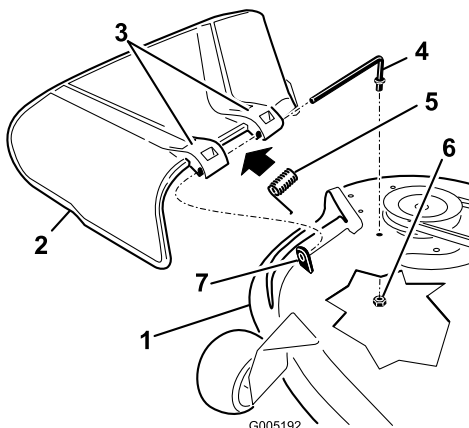

Figure 48
through second grass deflector bracket and internal lock washer (Figure 48).
7. Insert rod at front of grass deflector into short stand-off on deck. Secure rear end of rod into the mower with a nut (3/8 inch) (Figure 48).
1. Locate items shown in Figure 48.
2. Remove the nut (3/8 inch) from the rod under the mower (Figure 48).
3. Slide the rod out of the short stand-off, internal lock washer, spring, and grass deflector (Figure 48). Remove the damaged or worn grass deflector.
4. Replace the grass deflector and internal lock washer (Figure 48).